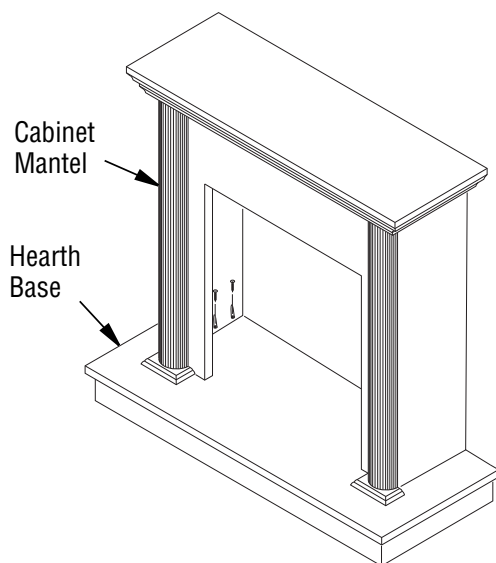

Figure 12 - Installing Cabinet Mantel onto Hearth Base
5. Center cabinet mantel on hearth base (see **Figure 12**). Make sure mantel is flush against wall and centered left to right on base.